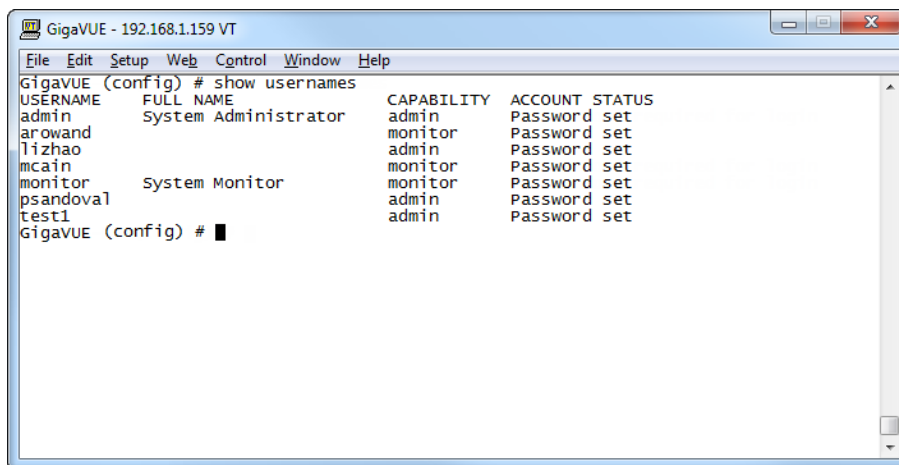

Figure 18 Reviewing the User List
- Once you have configured these basic user accounts, use the **show usernames** command to review your settings. Figure 18 Reviewing the User List shows some sample **show usernames** output after several users have been added.